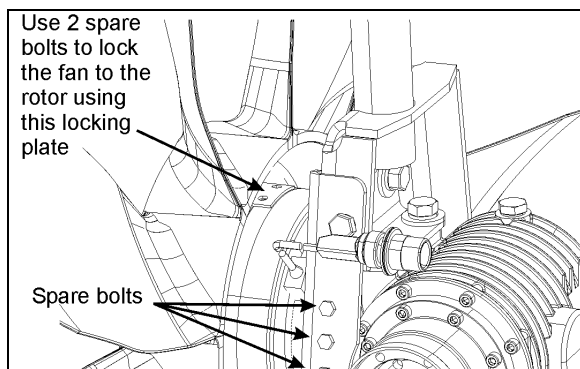

FIGURE 18: MECHANICAL LOCKING
5. Screw in and tighten the spare bolts (Fig. 18).